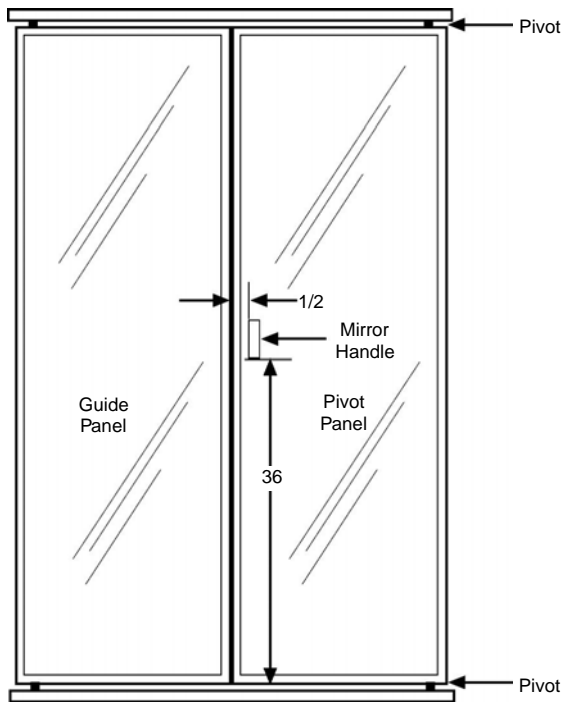

Figure 7
- Measure from the bottom of the pivot Panel, up 36 and mark the mirror. Next, make a mark 1/2 in from the edge of the mirror. See Figure 7.